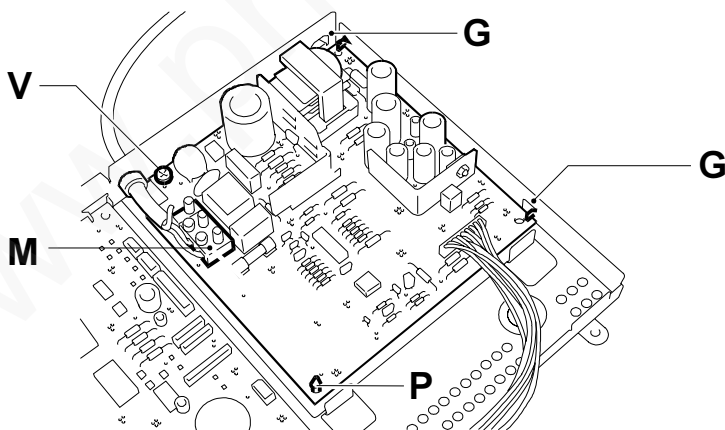

Fig. 7-21
- 3) Disconnect the power supply cable from the terminal board **M**, then unscrew the screw **V**, compress pin **P** and remove the power supply board from their guide **G** (Fig. 7-21):
Caution: While reassembling, ensure that the board is properly inserted in the related guides **G** (Fig. 7.21).